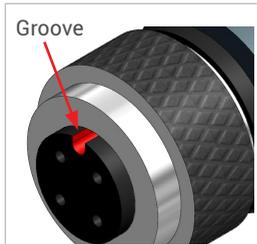

Figure 3
**Attention:** The guiding pin of the data cable connector must engage in the groove of the interface cable connector (Figure 2 and Figure 3).